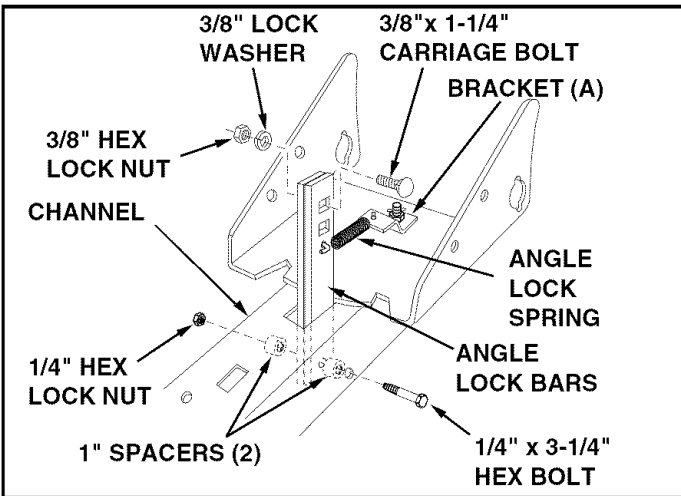

FIGURE 8 (Right Hand Side View)
- Assemble the two angle lock bars together as shown in figure 8, so that all holes are aligned. Use one 3/8" x 1-1/4" carriage bolt and one 3/8" nylon lock nut. Be sure to insert bolt from side indicated. **Do not tighten at this time.** See figure 8.
- Insert the round hook end of the angle lock spring up through the hole in bracket (A). See figure 8.
- Hold the angle lock bars so that the square holes at the top. Insert the straight hook end of the angle lock spring through the middle hole in both angle lock bars as shown in figure 8.
- Insert the angle lock bars down through the slot in the channel. Underneath the channel, place a 1" long spacer on each side of the angle lock bars and insert a 1/4" x 3-1/4" bolt through the channel, the angle lock bars and the spacers. Secure the bolt with a 1/4" nylon lock nut. **Tighten** so that lock bars can pivot freely. See figure 8.